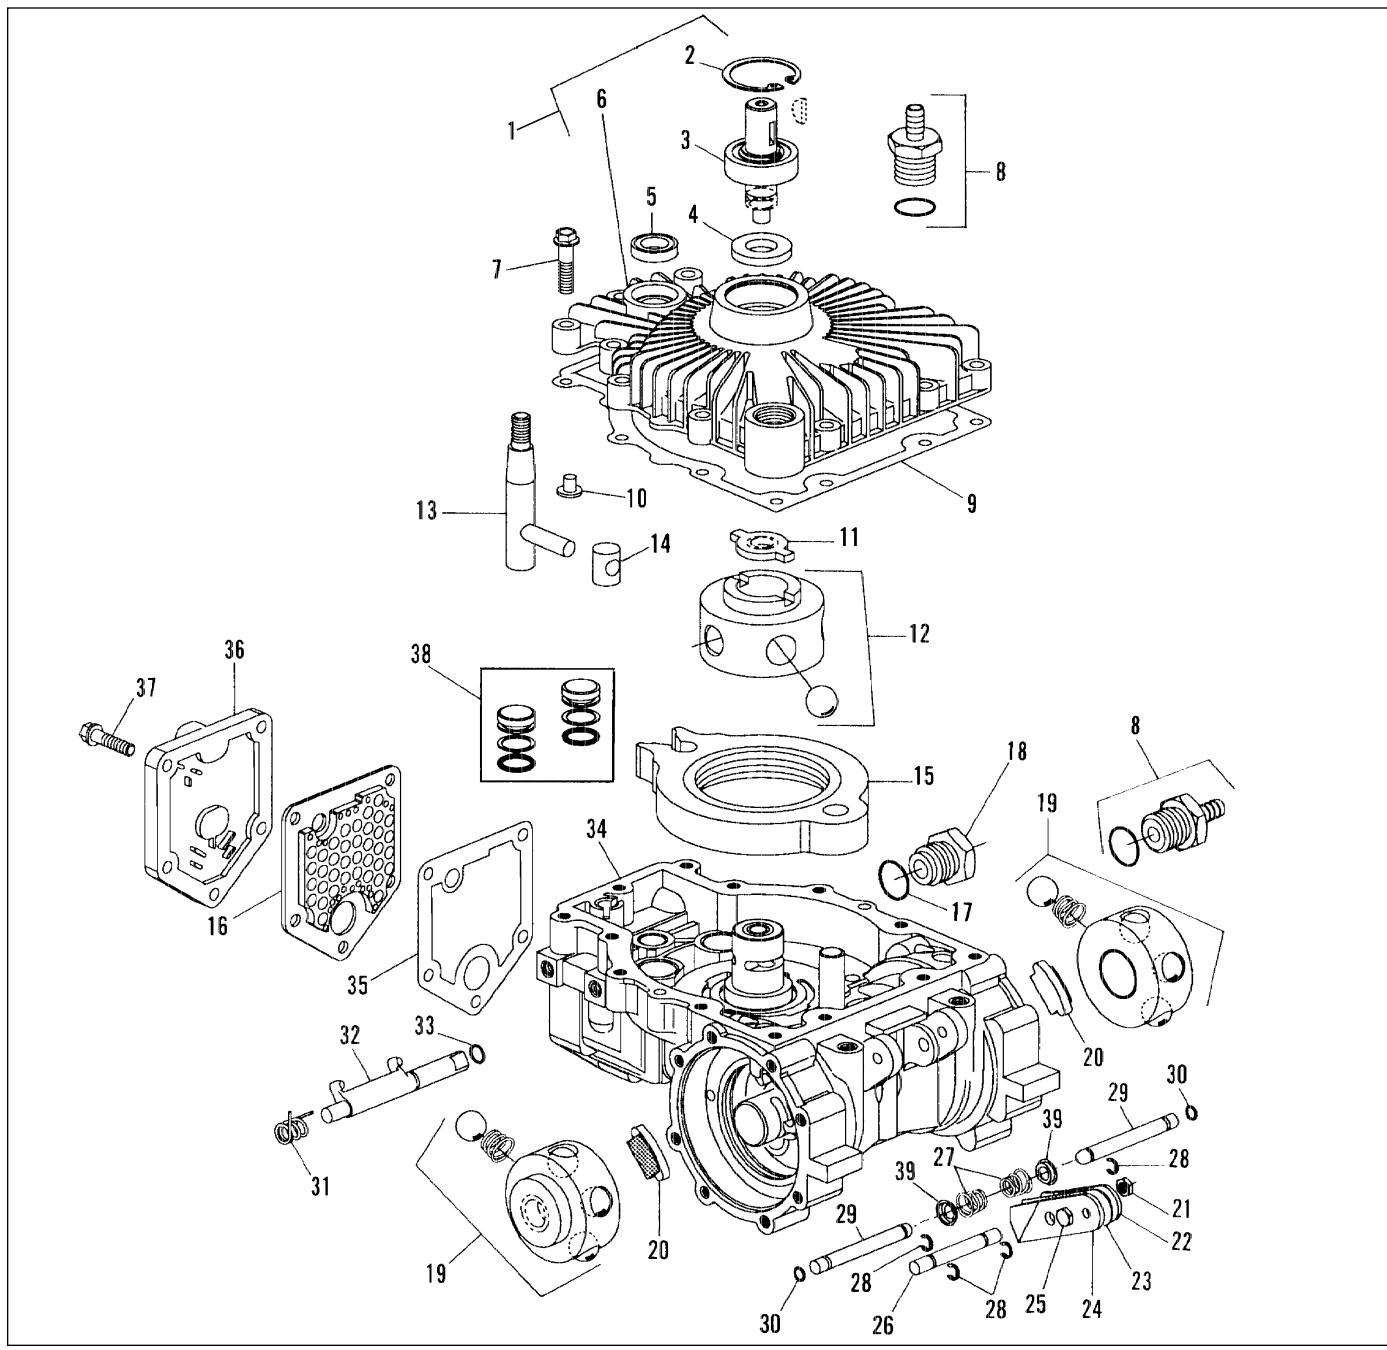

Figure B-5. Eaton 751 Hydrostatic Transaxle
*Note: Model 751 has a filter located between valve cover (A) and main housing (B). Refer to item 16, Figure B-5 for reference.*